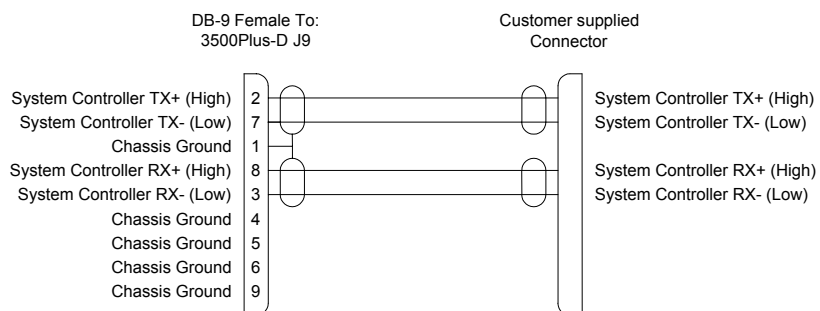

Figure 52. 3500Pro-D RS-422 CPU Link Cable
- COM 4 is an RS-422 CPU Link similar to the RS-232 CPU Link, except the cable may be up to 4000 feet in length and an RS-422 interface card must be installed in the expansion bus. COM 4 may be used with any of the protocols shown in Table 3 on page 37. If necessary, a cable may be fabricated in the field as shown in Figure 52.